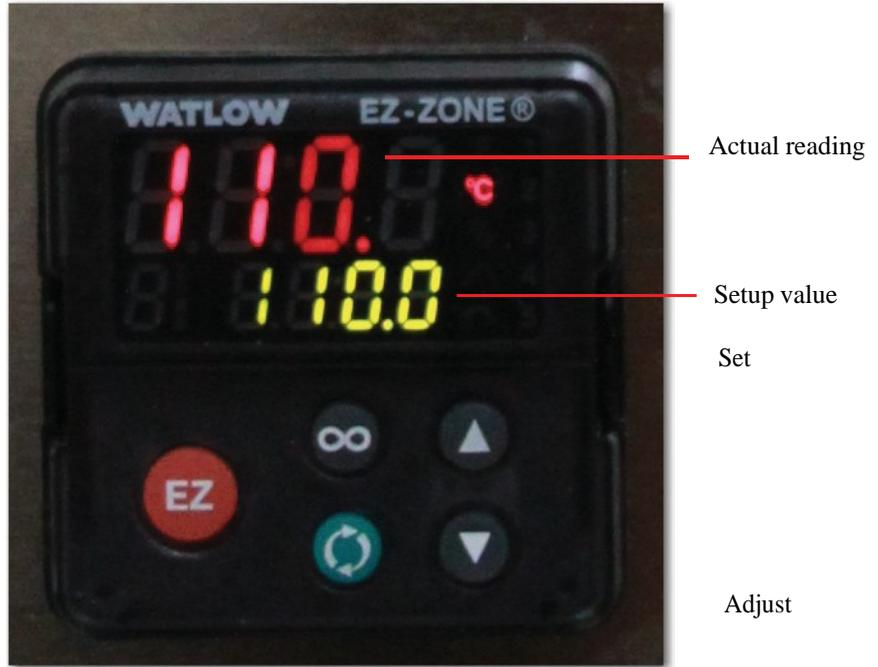

FIGURE 6-17: Temperature readings on WATLOW
7. Look at the temperature readings on the WATLOW, as shown in Figure 6-17.